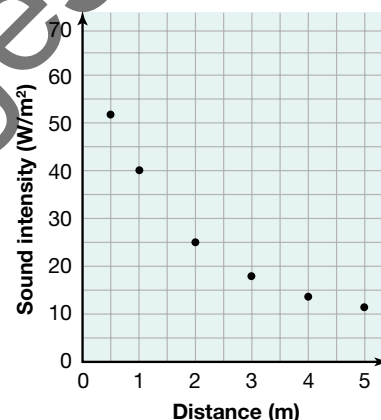

FIGURE 1.5.1
- Analyse the graph in Figure 1.5.1 and predict the sound intensity (measured in watts per square metre) at:
- Extrapolate the graph in Figure 1.5.1, extending it logically backwards to zero. Use your extrapolation to predict what the sound intensity at a distance of 0 metres would be.
- Analyse the graph in Figure 1.5.1 and predict the distance at which the sound intensity was: